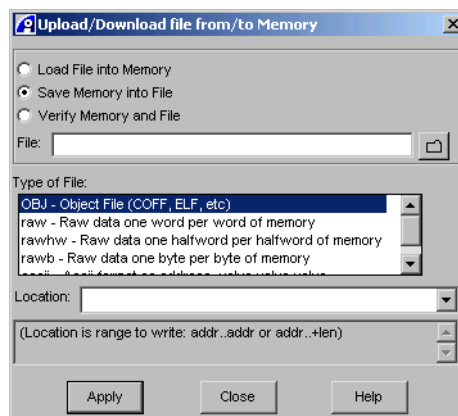

Figure 7-3 Upload/Download file from/to Memory dialog box
6. Select **Debug** → **Memory/Register Operations** → **Upload/Download Memory file...** from the Code window main menu to display the Upload/Download file from/to Memory dialog box, shown in Figure 7-3.
2. Select **Debug** → **Memory/Register Operations** → **Upload/Download Memory file...** from the Code window main menu to display the Upload/Download file from/to Memory dialog box (see Figure 7-3 on page 7-14).
2. Select **Debug → Memory/Register Operations → Upload/Download Memory file...** from the Code window main menu to display the Upload/Download file from/to Memory dialog box, shown in Figure 7-3 on page 7-14.